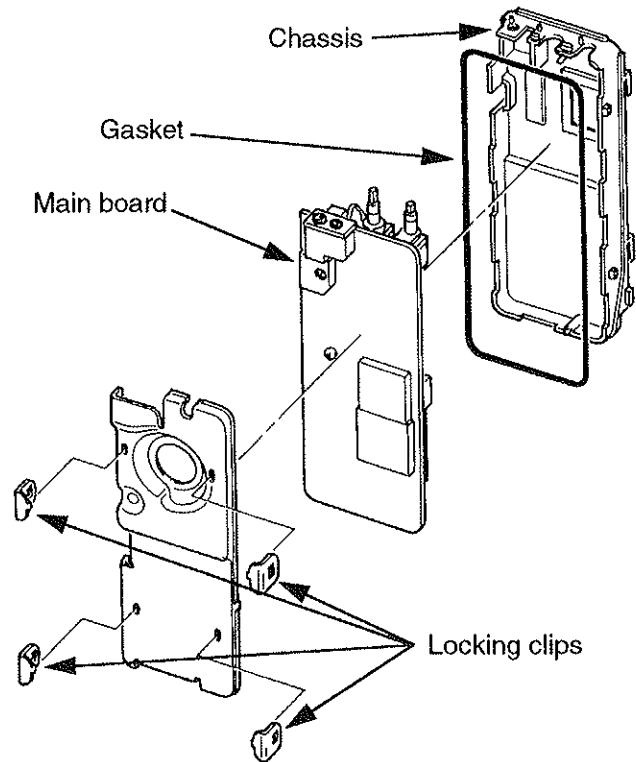

Figure 1-5. Separate Main Board From Chassis
5. Separate the main board from the chassis (Figure 1-5).